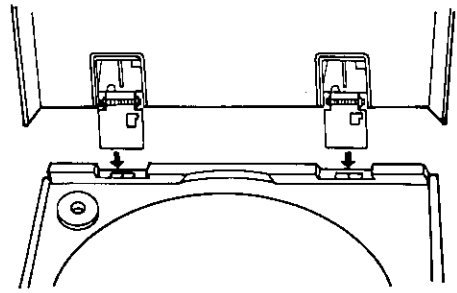

Fig. 19
8. Insert the hinges of the dust cover into the notches on the turntable base (Fig. 19).